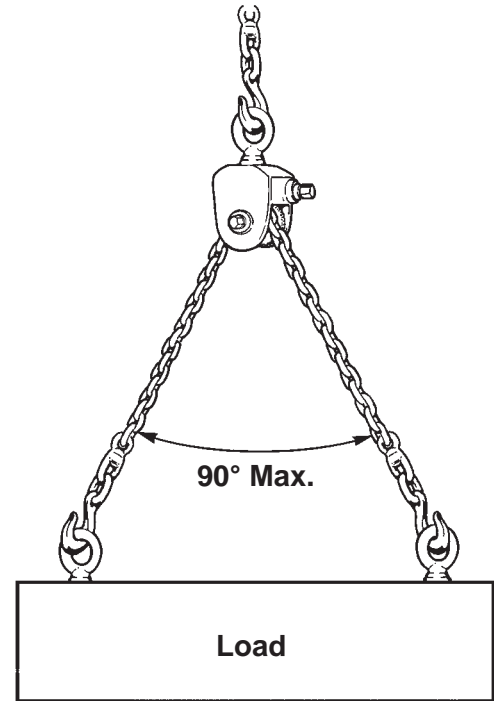

Figure 1
- Do not exceed a 90° angle between the chains when lifting a load. See Figure 1.